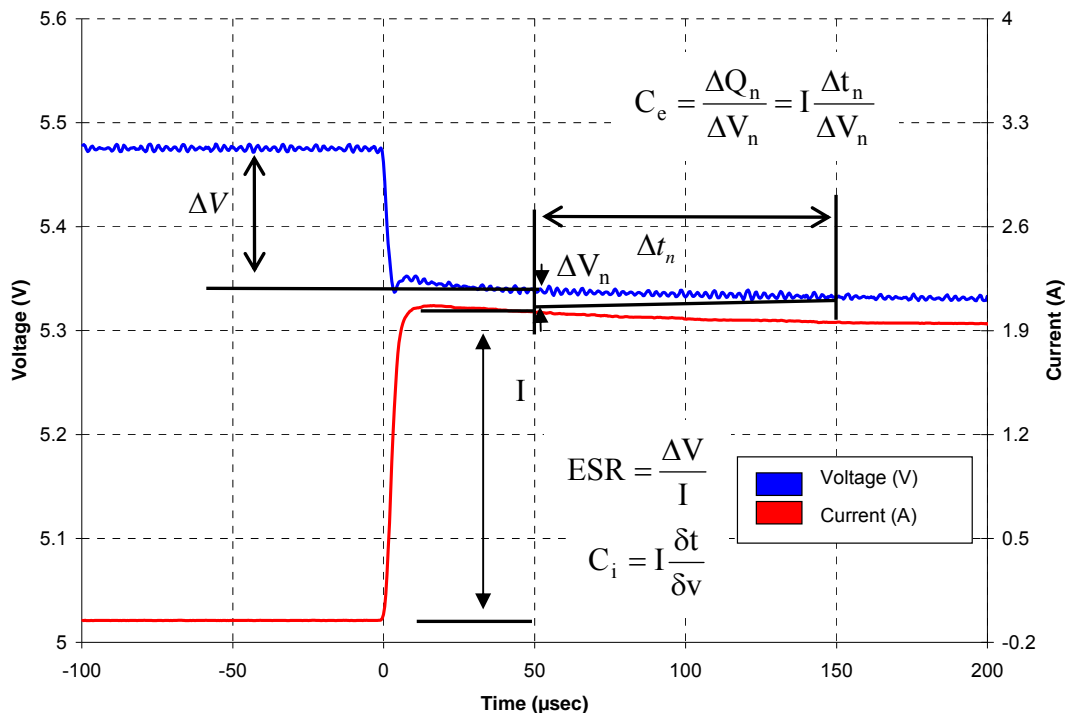

Figure 1: Definitions for Effective Capacitance, Instantaneous Capacitance and ESR
In its simplest form, the Equivalent Series Resistance (ESR) of a capacitor is the real part of the complex impedance. In the time domain it can be found by applying a step discharge current to a charged capacitor as in figure 1. In this figure the supercapacitor is pre-charged and then discharged with a constant current pulse (I). The ESR is found by dividing the instantaneous voltage step (ΔV after 50 μsec from start of current pulse) by I. The instantaneous capacitance (C_i) can be found by taking the inverse of the derivative of the voltage and multiplying it by I. The effective capacitance (C_e) is found by dividing the total charge removed from the capacitor (ΔQ_n) by the voltage lost by the capacitor (ΔV_n). Note that ΔV , or IR drop, is not included because this is the voltage drop due to ESR. C_e shows the time response of the capacitor and it is useful for predicting circuit behaviour in pulsed applications.
In the example of Fig 1, using an HW207, $\Delta V = 5.48\text{V} - 5.34\text{V} = 0.14\text{V}$, $I = 2.05\text{A}$, so $\text{ESR} = 0.14\text{V}/2.05\text{A} = 68.3\text{m}\Omega$. Similarly for $C_{\text{effective}}$ at 100 μsec $\Delta V_n = 5.34\text{V} - 5.32\text{V} = 0.02\text{V}$, $\Delta t_n = 100\mu\text{sec}$, and $I = 1.97\text{A}$. Therefore, $C = 1.97\text{A} \times 100 \times 10^{-6}\text{s}/0.02\text{V} = 9.85\text{mF}$.